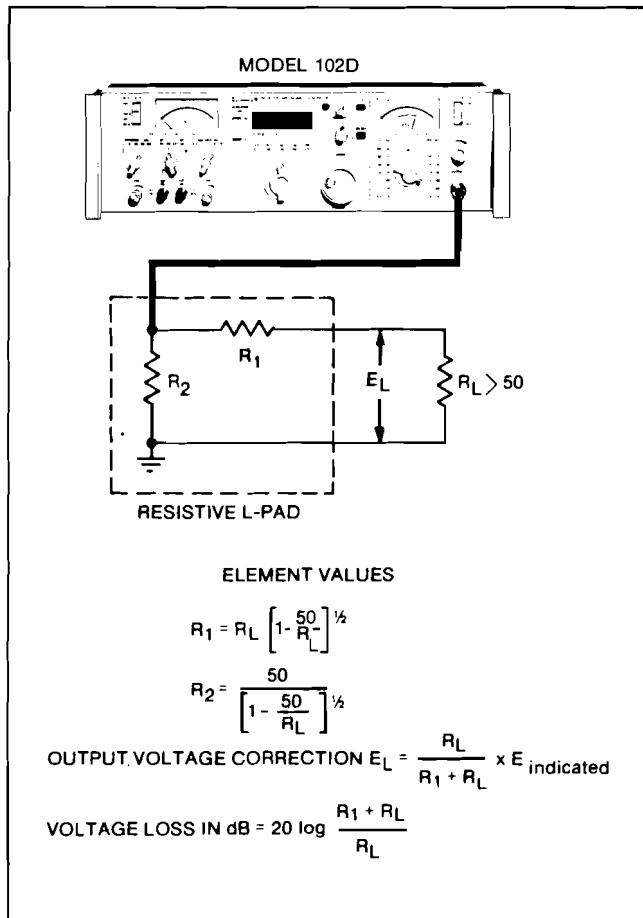

Figure 2-4 Impedance Matching Network for Output Load Impedance Higher Than 50 Ohms
**2-24.** Consider the case where an output load impedance higher than 50 ohms is required. A network similar to that shown in Figure 2-4 can be employed.